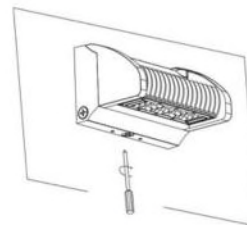

Figure 1-5
5. Fix the luminaire on the bracket and tighten screws on the bottom (Figure 1-5)